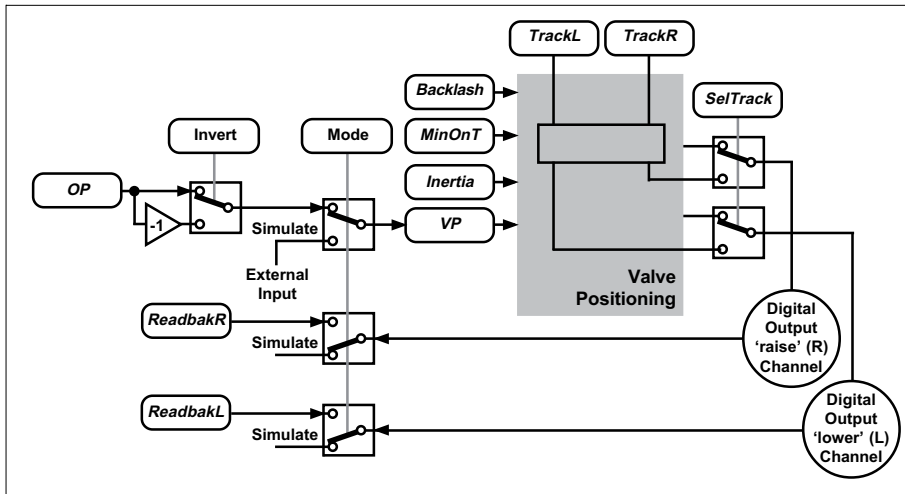

Figure 75 Valve Positioner Block schematic
Please refer to the schematic in *Figure 75*. This block is designed specifically for controlling the position of a valve via two digital output channels from a single I/O module. The block represents two points from a single point in the plant/system to effect the ‘raise’ (R) and ‘lower’ (L) valve position output.